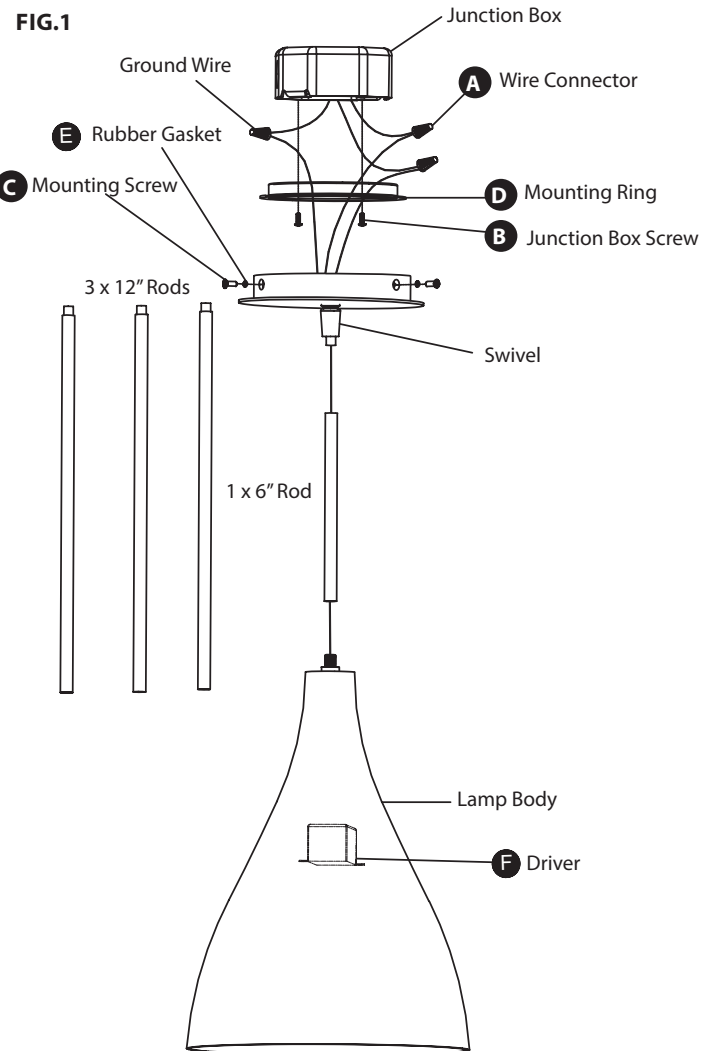

FIG.2 Wiring
CONNECTING THE WIRES (Fig. 2)
6. Cut the extra wire. Connect the driver input's wires to junction box wires as shown in Fig. 2, making sure that all wire connectors (A) are secured. If your outlet box has a green or bare copper ground wire, connect the fixture's ground wire to it. Otherwise, connect the fixture's ground wire directly to the mounting plate using the green screw provided. After wires are connected, tuck them carefully inside the junction box.
7. Place the fixture over the mounting back plate and secure with mounting screws (C) and rubber gaskets(E).